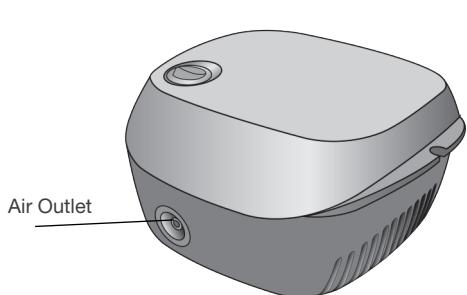

Figure 5-1
8. Attach one end of the tubing firmly onto to the air outlet on the back of the compressor unit. It is important that the tubing be pushed all the way onto the air outlet. The tubing is designed to fit tightly (Figure 5-1).